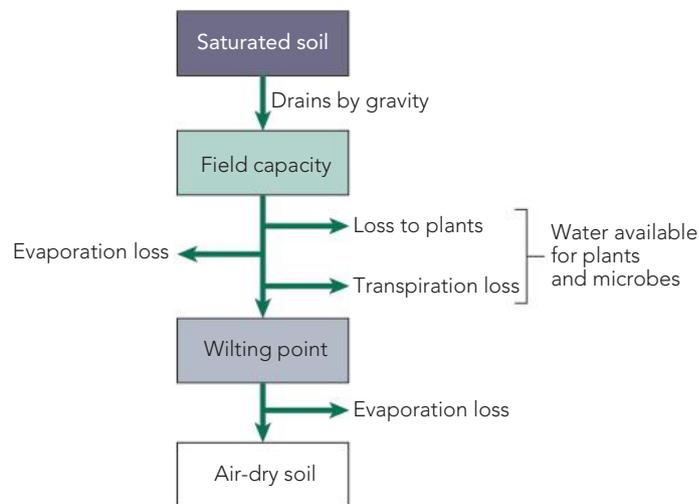

Figure 15.16 Soil-water relations
Figure 15.16 (page 212) demonstrates several important soil–water relationships. When all the available pore space is full of water, the soil is said to be **saturated**. This condition can interfere with plant growth as all the air is forced out of the soil. The amount of water remaining in the soil 24–48 hours after saturation by irrigation or rainfall is called **field capacity**. This is the water held in the soil pores by physical and osmotic forces. Plants and organisms will continue to remove water from soil pores until the physical forces holding water in the soil pores prevent this. When a plant can no longer remove water from soil pores it collapses, as plant cells only maintain plant form when they are full of water (**turgid**). When a plant collapses it is said to **wilt**, and the moisture level in the soil when this occurs is
- 20 Use Figure 15.16 to describe what happens as a saturated soil dries out until it is air dry.